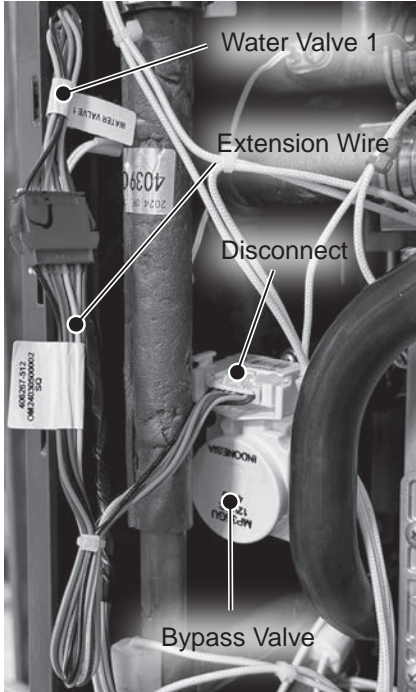

Figure 44 - Disconnecting water valve 1 and extension wire
- 22** Locate the water valve 1 wiring harness and extension wire connected to the bypass valve. Disconnect wiring at the bypass valve. See Figure 44.